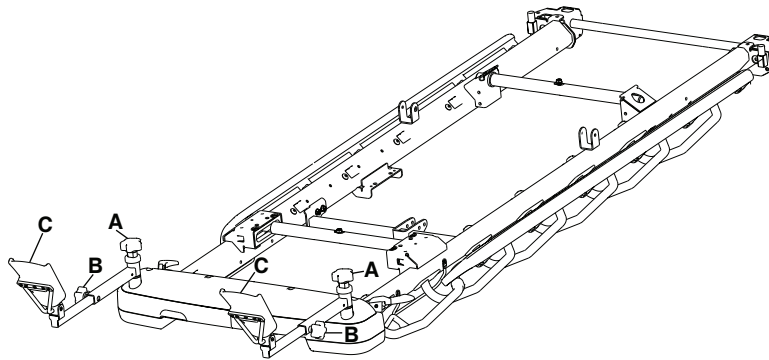

Figure 26 – Positioning the foot supports
1. Loosen the knee knob (A) at the top of the foot supports to adjust the side-to-side angle of the foot supports (Figure 26).
2. Tighten the knee knob (A) to lock the foot supports in the desired position.